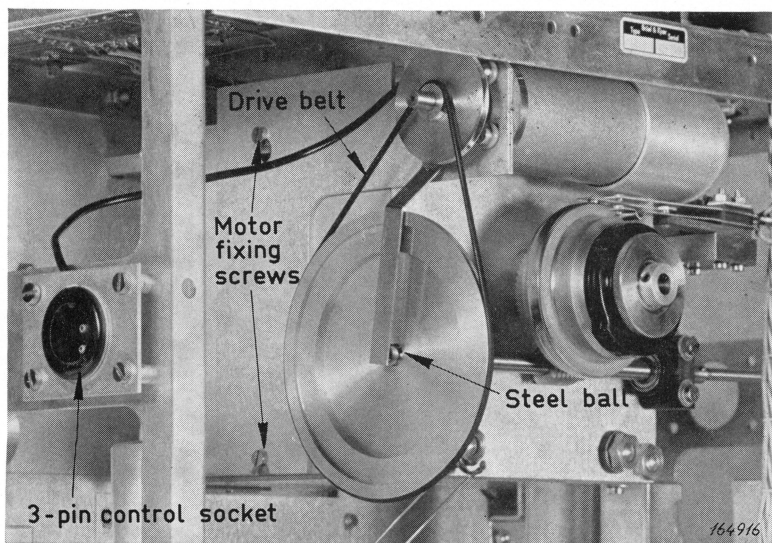

Fig. Aa3.
4. Fix the motor and its mounting plate with the two motor fixing screws as shown in Fig. Aa3. The steel ball is inserted in order to ground the large wheel.
6. Fix the 3-pin control socket as shown in Fig. Aa3.